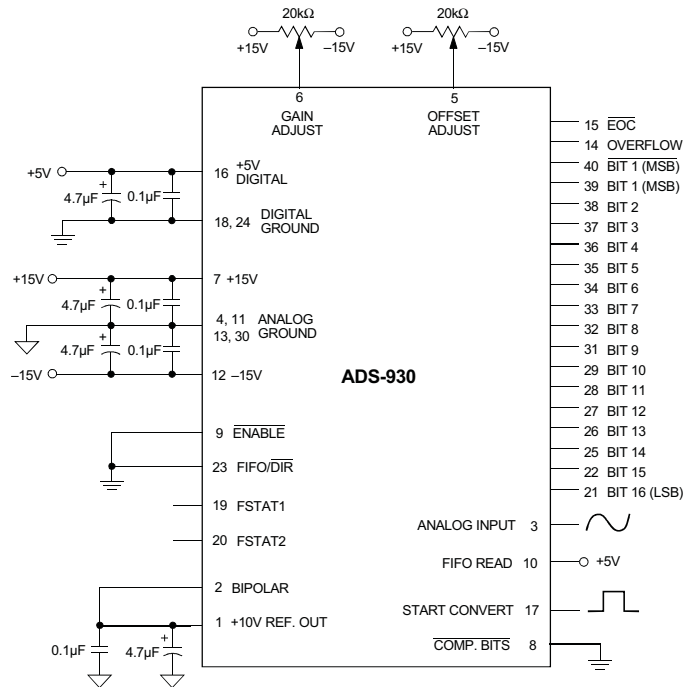

Figure 2. Bipolar Connection Diagram
2. The ADS-930 achieves its specified accuracies without the need for external calibration. If required, the device's small initial offset and gain errors can be reduced to zero using the adjustment circuitry shown in Figure 2. When using this circuitry, or any similar offset and gain calibration hardware, make adjustments following warmup. To avoid interaction, always adjust offset before gain. Tie pins 5 and 6 to ANALOG GROUND (pin 4) if not using offset and gain adjust circuits.
**CALIBRATION PROCEDURE (Refer to Figure 2 and Tables 3a and 3b)**
Connect the converter per Table 2 for the appropriate input voltage range. Any offset/gain calibration procedures should not be implemented until the device is fully warmed up. To avoid interaction, adjust offset before gain. The ranges of adjustment for the circuits in Figure 2 are guaranteed to compensate for the ADS-930's initial accuracy errors and may not be able to compensate for additional system errors.